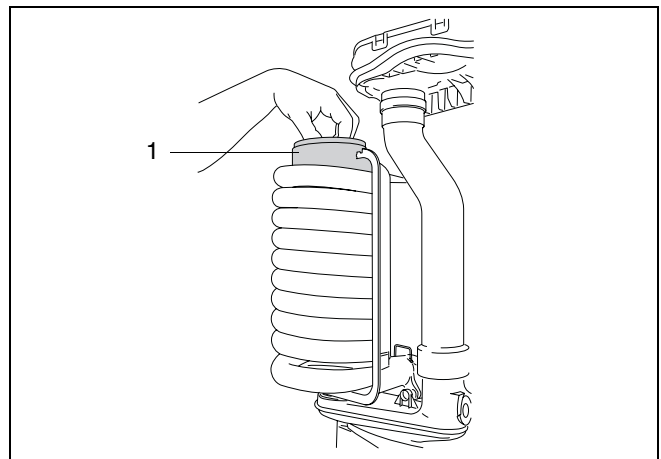

fig. 53 Remove flue gas retarder
- Remove the flue gas retarder from the heat exchanger (fig. 53, item 1).